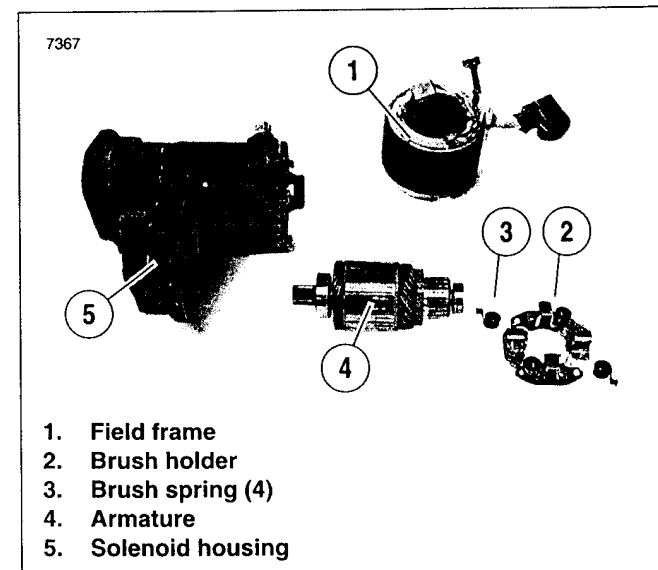

Figure 5-14. Starter Components
6. See Figure 5-14. Use a wire hook to pull upward on brush springs (3), and lift brushes out of holder (2). Remove brush holder.
7. Remove armature (4).